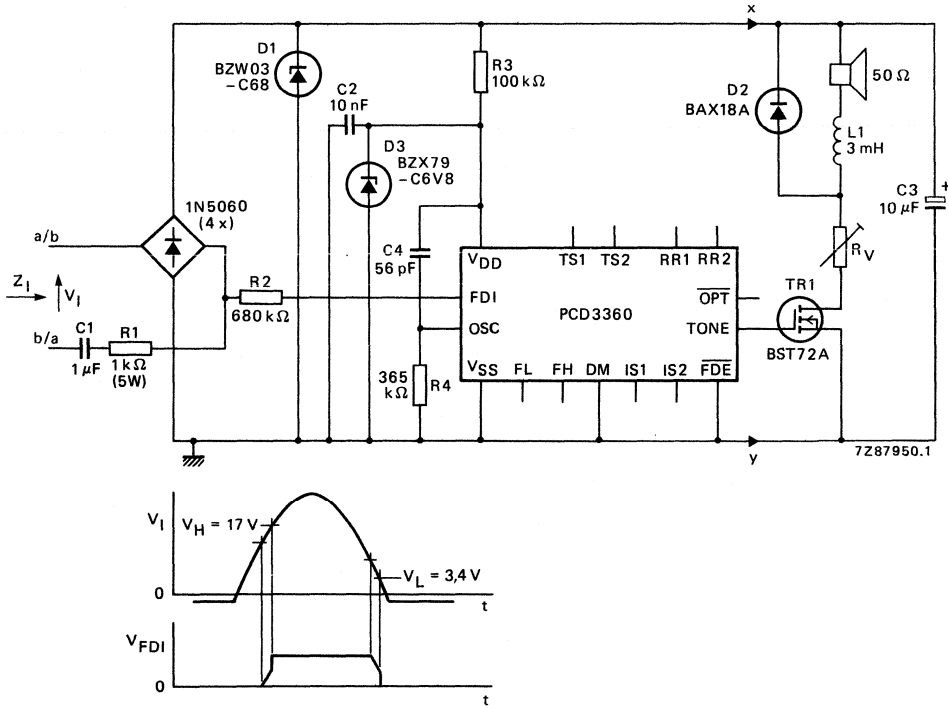
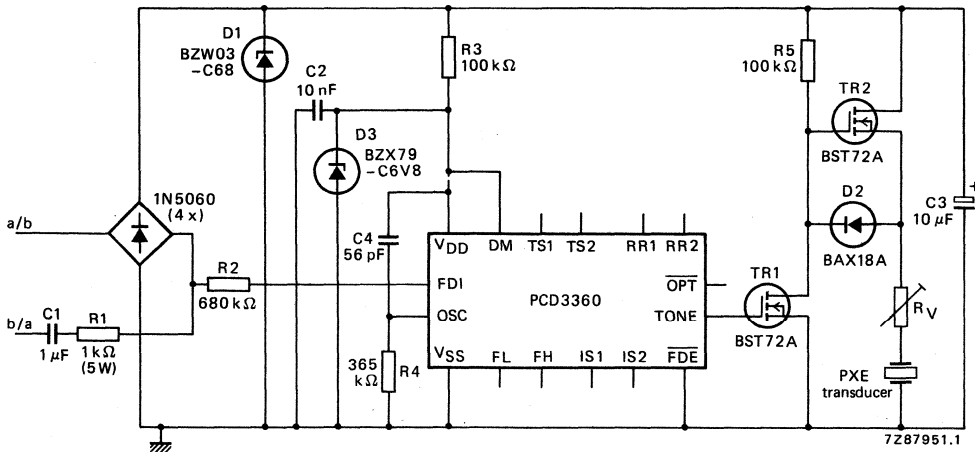

Fig. 8 Transformerless electronic ringer with PCD3360 and a loudspeaker.
Fig. 9 PCD3360 ringer with PXE transducer.
Application of the PCD3360 in a telephone ringer circuit together with a loudspeaker is shown in Fig. 8.
- The value of R2 (680 k Ω in Fig. 8)
- The value of R3 (100 k Ω in Fig. 8)
Application of the PCD3360 together with a PXE transducer is shown in Fig. 9. The only significant difference between Fig. 8 and Fig. 9 is the output stage. Two BST72A transistors provide an output voltage swing almost equal to the voltage at C3. Pins IS1 and IS2 are inoperative because DM = HIGH. Volume control is possible using resistor R_V.
All keyboard entries are debounced on both the leading and trailing edges for approximately time t_e as shown in Fig. 8. Each entry is tested for validity.